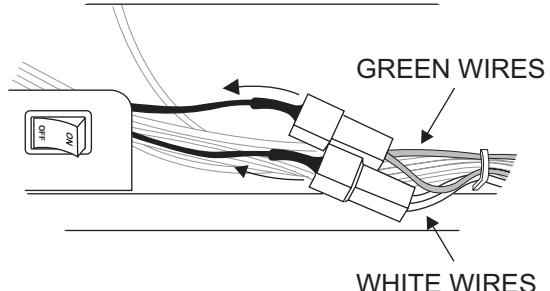

Figure 18
**"IP" Valve** - Locate the two 5-1/2-inch long black wires connected to the ON/OFF switch. Disconnect these two black wires at the green and white wire connections. Attach the flag terminals (the low voltage wire assembly found in the Instruction Packet) to the green and white wire connections. See Figures 18 and 19.
- b. For IP valve connections, locate the green and white wires from the control module, then connect the switch wire flag terminals to the green and white wire terminals. **See Figures 18 and 19.**
- 2b. Attach the flag terminals to the green and white wire terminals located in the bottom of the insert near the gas valve. **See Figures 18 and 19.**